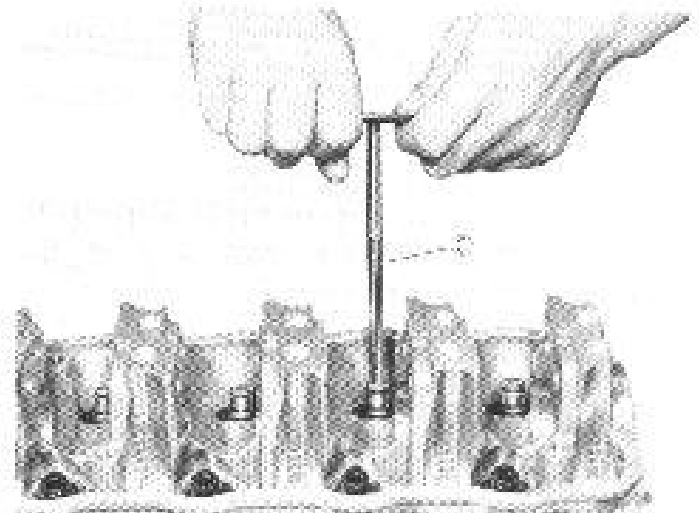

Fig. 3-61
- 3) Check all valve guides in place for I.D., and, if the I.D. reading compared with the stem diameter reading indicates too small a radial clearance, ream the guide I.D. with the reamer Ⓓ (09916-34520), as shown in Fig. 3-61.